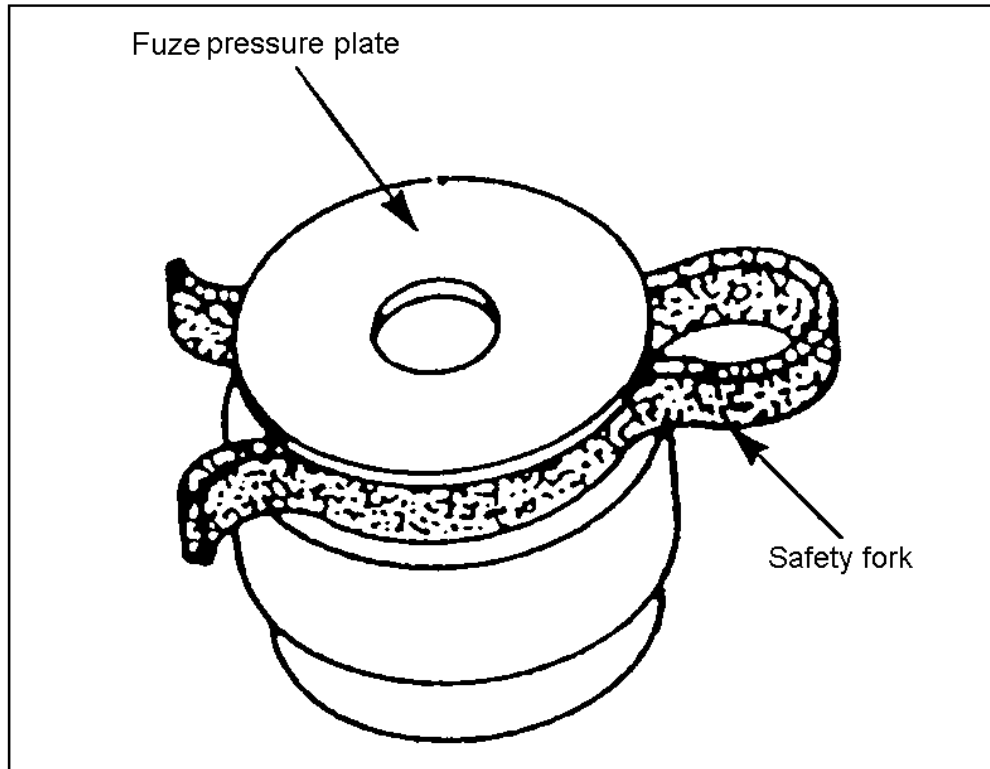

Figure 051-192-1107-4
- b. Use the hooked end of the M20 wrench to remove the safety fork of the M603 fuze. Retain the safety fork for future use (Figure 051-192-1107-4).